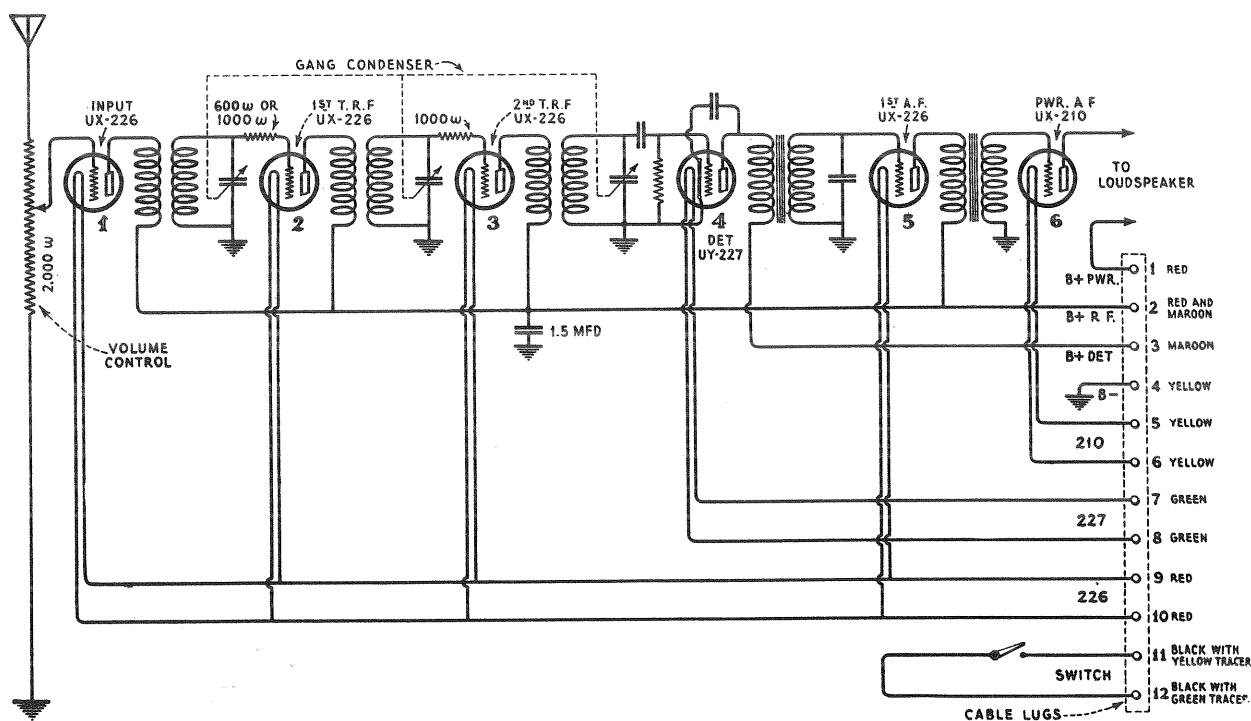

Figure 6—Schematic circuit diagram of the receiver assembly in Radiola 41
Refer to the schematic circuits, Figures 6, 7 and 8, in connection with the following service data. If a pronounced hum develops look for:
- (a) Defective grid resistor in second or third R. F. stages. The resistors may be checked by means of a resistance bridge, or the voltmeter ammeter method described below. Figure 6 shows the correct value of these resistors.